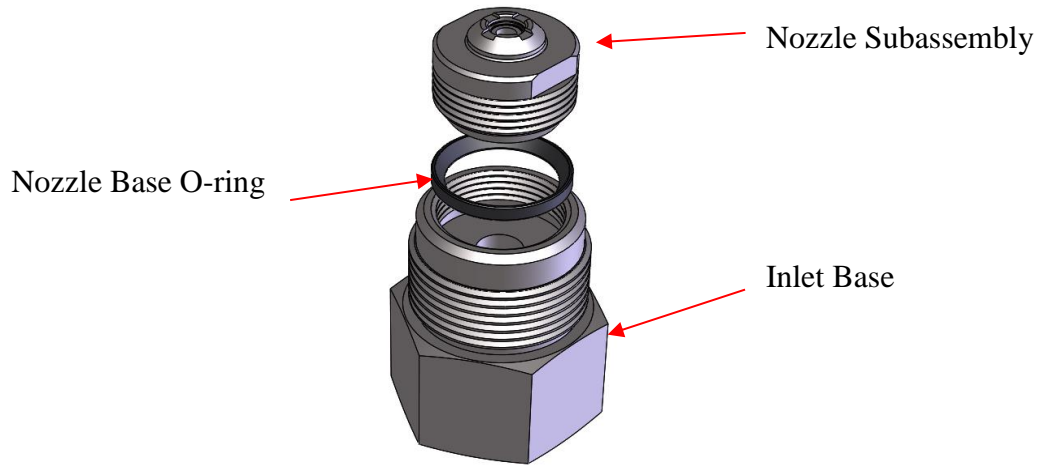

Figure 17: Nozzle Subassembly
7. Remove and discard the nozzle base o-ring. See Figure 17.